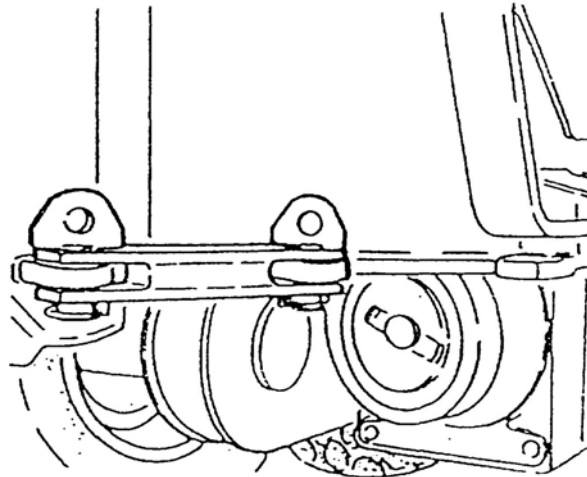

Fig.28
4. Fix the articulated steering of the grader by inserting the safety rod to prevent movement(Fig. 28)